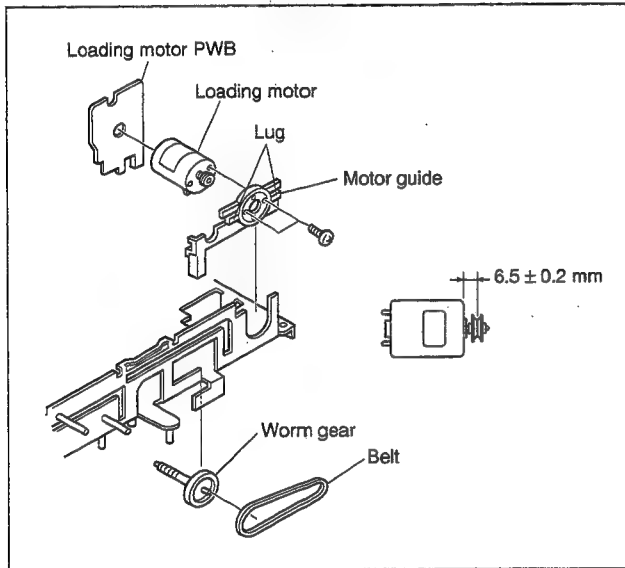

Fig. 2-2-15
- (1) Remove the belt wound around the worm gear.
- (2) Open the two lugs of the motor guide and remove the loading motor, loading motor PWB and motor guide altogether by pulling them up.
- (3) When replacing the motor base, take care with the orientation of the motor (so that the label faces upward).
- (4) When the motor pulley has been replaced, choose the fitting dimension as indicated in Fig.2-2-15.